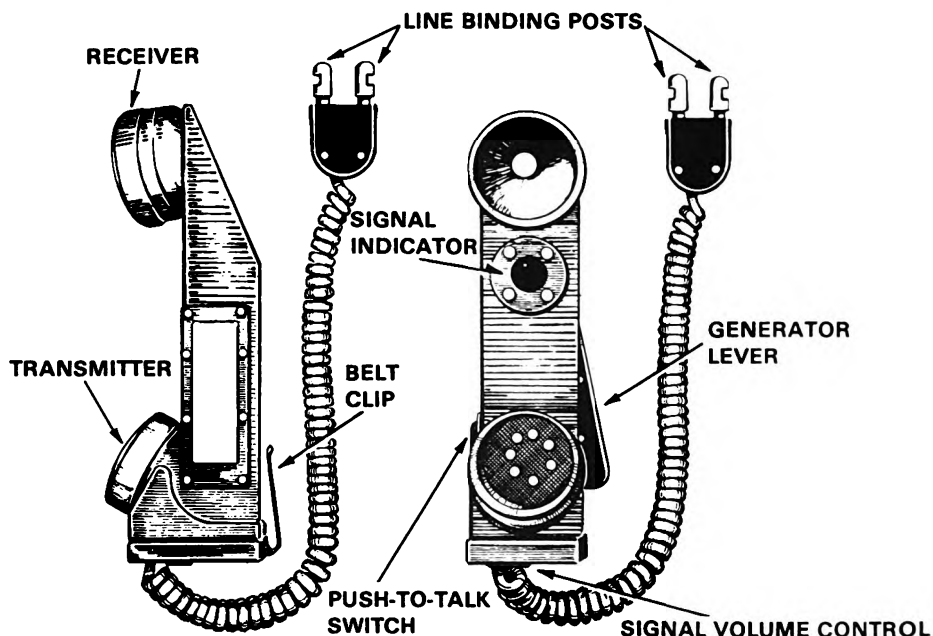

Figure 1.
- b. Refer to figure 1. Depress the spring-loaded line binding posts and insert one strand into each post.